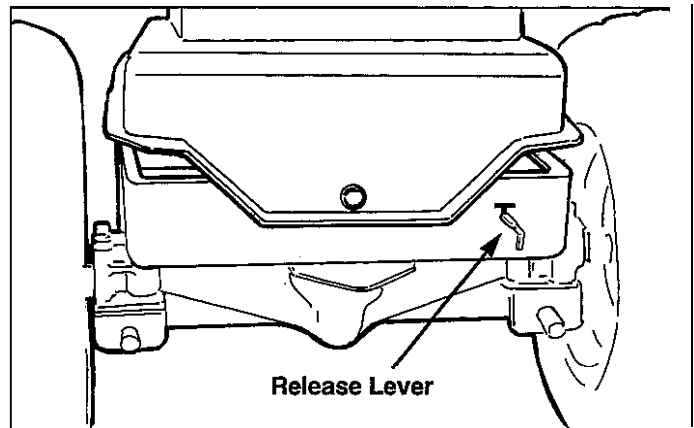

Figure 4. Release Lever - Hydro Models
2. See Figure 4. The release lever is located on the rear of the tractor. To release the transmission pull the lever up, back and then down to lock. **DO NOT ACTIVATE WHILE ENGINE IS RUNNING.**